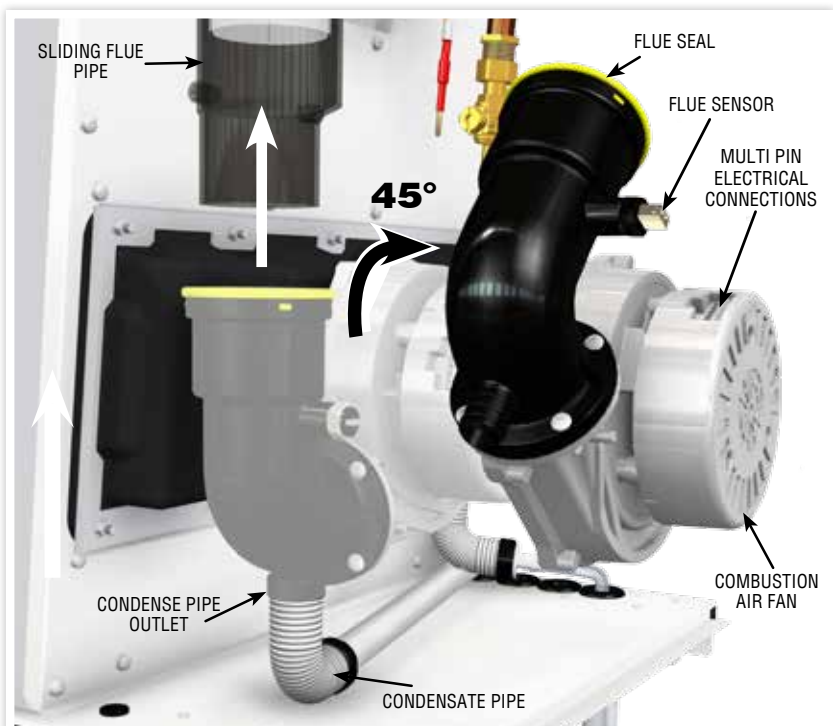

FIGURE 20. COMBUSTION AIR FAN REMOVAL
16.7.1 Refer to section 16.3 & Figure 20.